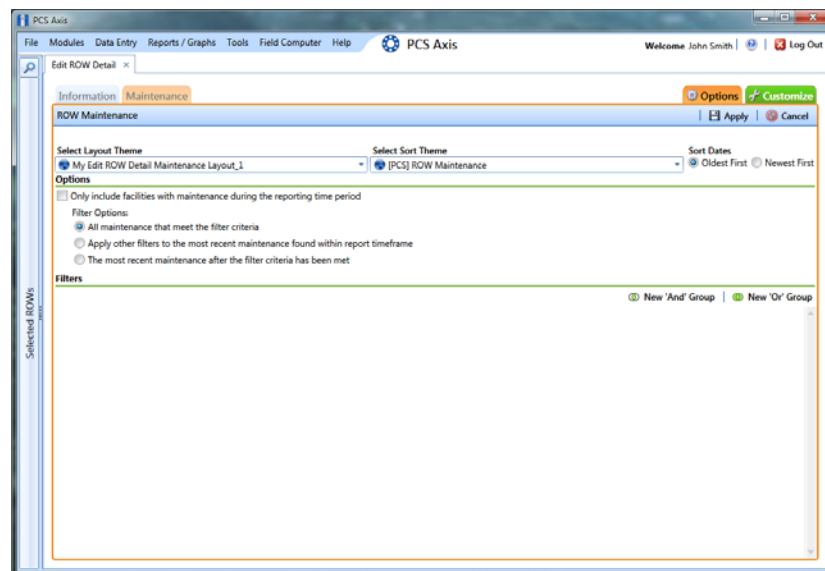

Figure 3-35. Options/Maintenance Grid
- 2 Click the **Maintenance** tab , then the **Options** tab  to open the *Options* page (Figure 3-35).